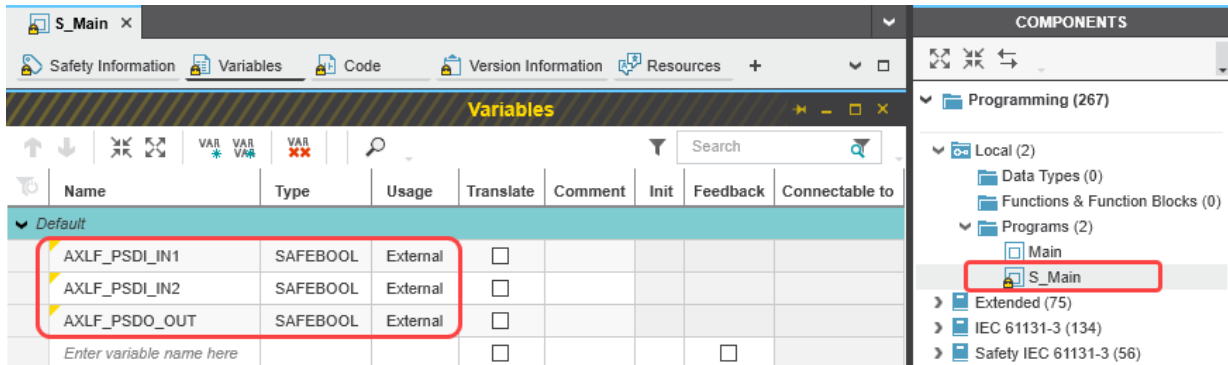

Figure 6-41 Creating variables for a POU (in the example: for the “S_Main” POU)
- Create the variables that you need for the selected POU (in the example in Figure 6-41: S_Main).